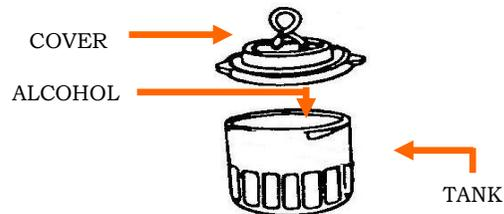

Fig. 1
1. Take off the cover, fill the tank with alcohol (max 100 mL) and then close the cover (Fig. 1). Note: No wick is required. Fuel consumption approx. 1 mL per min.